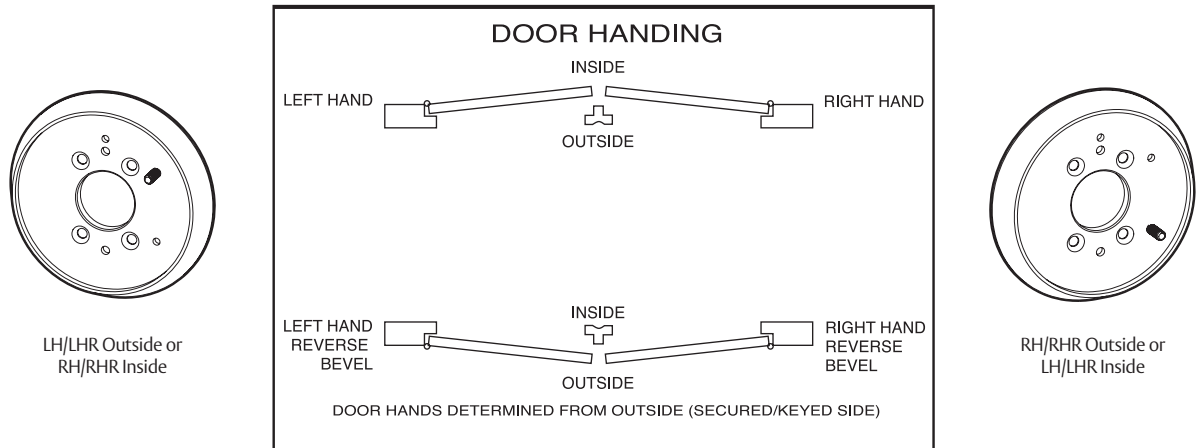

Figure 4
- Review following figures that illustrate left and right roses. (Figure 4)